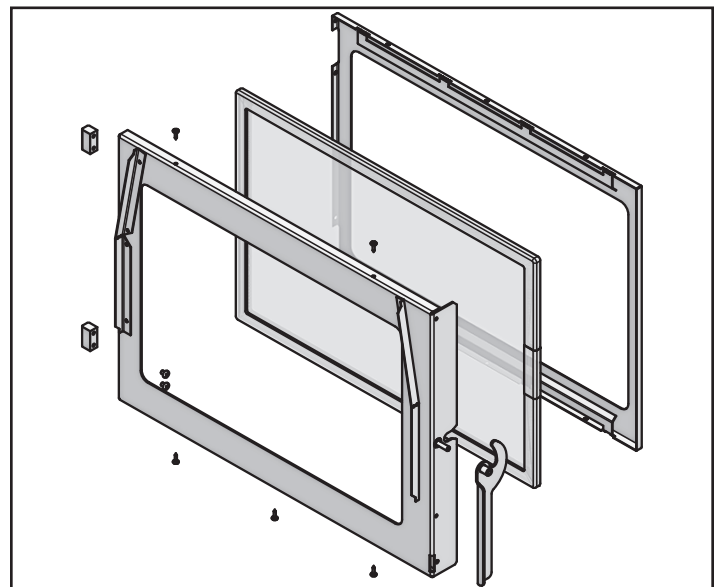

Figure 26.3
2. Using a Phillips head screw driver, remove 4 screws, 2 on the top and 2 on the bottom. Remove metal bracket and then remove the glass (Figure 26.3).